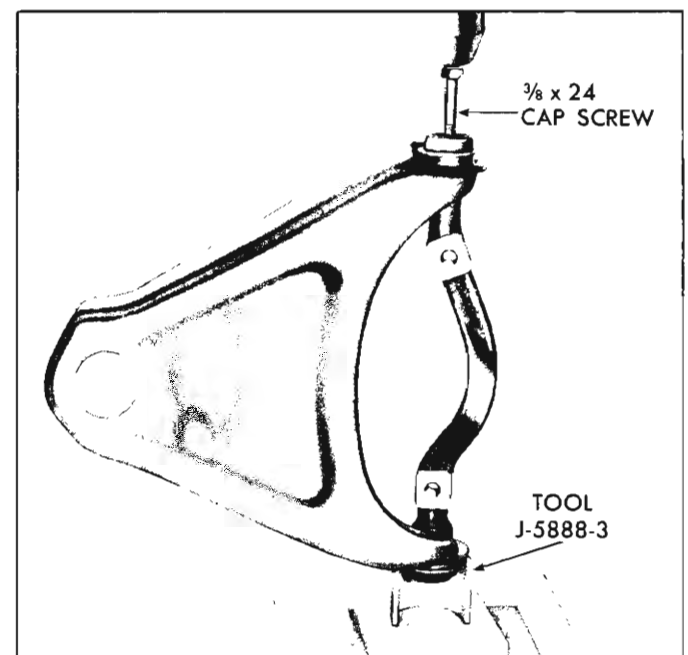

Fig. 23—Removing Upper Control Arm Cross Shaft Bushings
3. Support control arm in an arbor press on Tool J-5888-3 as shown in Figure 23.